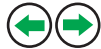

Fig. 11
C) Hazard switch (ref. Fig. 11)
- Press the button '△' (C) to turn ON / OFF the hazard lamps.